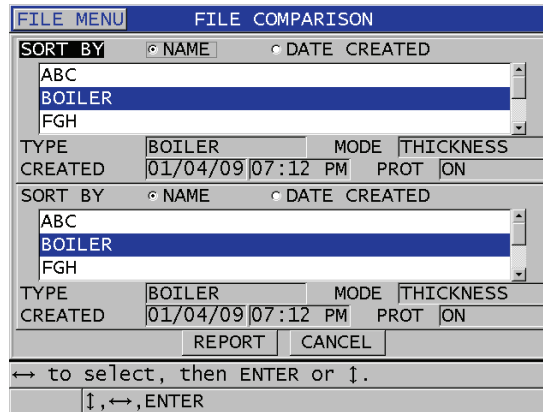

Figure 11-34 The FILE COMPARISON report screen
6. In the **FILE COMPARISON** screen (see Figure 11-34 on page 204):